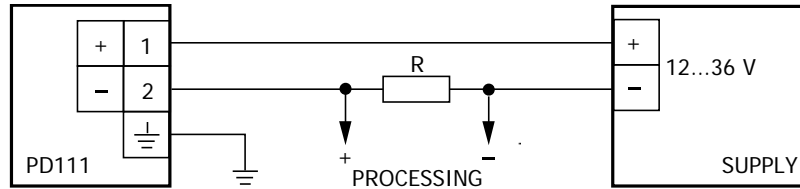

Fig. 4.1 Wiring diagram
The transmitter is connected in accordance with the wiring diagram (Fig. 4.1) considering the load resistance requirements.
- Connect the cable ends in accordance with the wiring diagram (Fig. 4.1).
- Loosen the screw terminals of the terminal holder 5, connect the stripped wire ends in accordance with the wiring diagram (Fig. 4.1) and screw the screw terminals in tight.